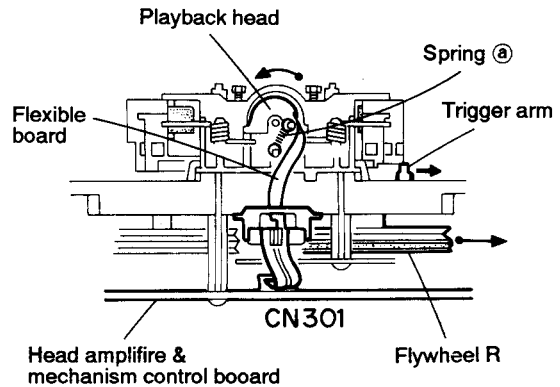

Fig.5-25 (Mechanism A side)
2. When the flywheel R is rotated in counterclockwise direction, the playback head will be turned in counterclockwise direction from the position in Fig. 5-25 to that in Fig. 5-26.
6. Remove the spring ① from behind the playback head.